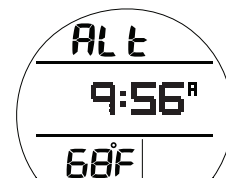

Fig. 45 - NO DECO ALT 1
No Deco Alt 1, information includes (Fig. 45) -
- #2 >> is similar to No Deco ALT 1 (Fig. 45).